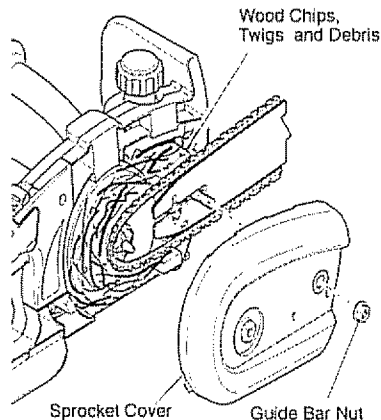

Figure 10 - Removing and Clearing Sprocket Cover of Debris
2. Loosen and remove guide bar nut (see Figure 10)